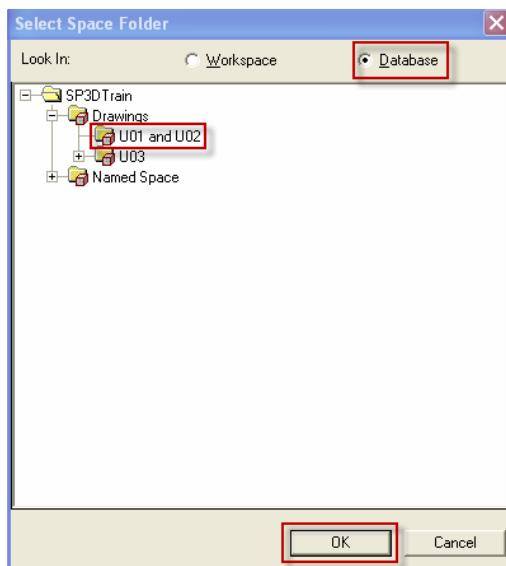

Figure 19: Select Space Folder Dialog Box
5. In the **Select Space Folder** dialog box, click the **Database** option, browse to the folder **SP3D Train > Drawings > U01 and U02** and then click **OK**, as shown in Figure 19.